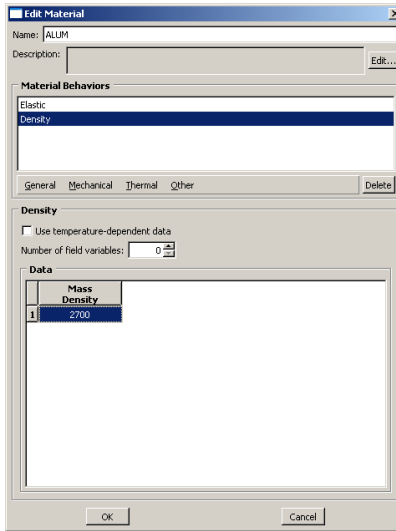

Figure 7. Final Edit Material Dialog Box (ALUM)
- Next, click the **General** tab, and then click **Density**. Enter a value of 2700 for Mass Density. The **Edit Material** dialog box should look similar to that in Figure 7.